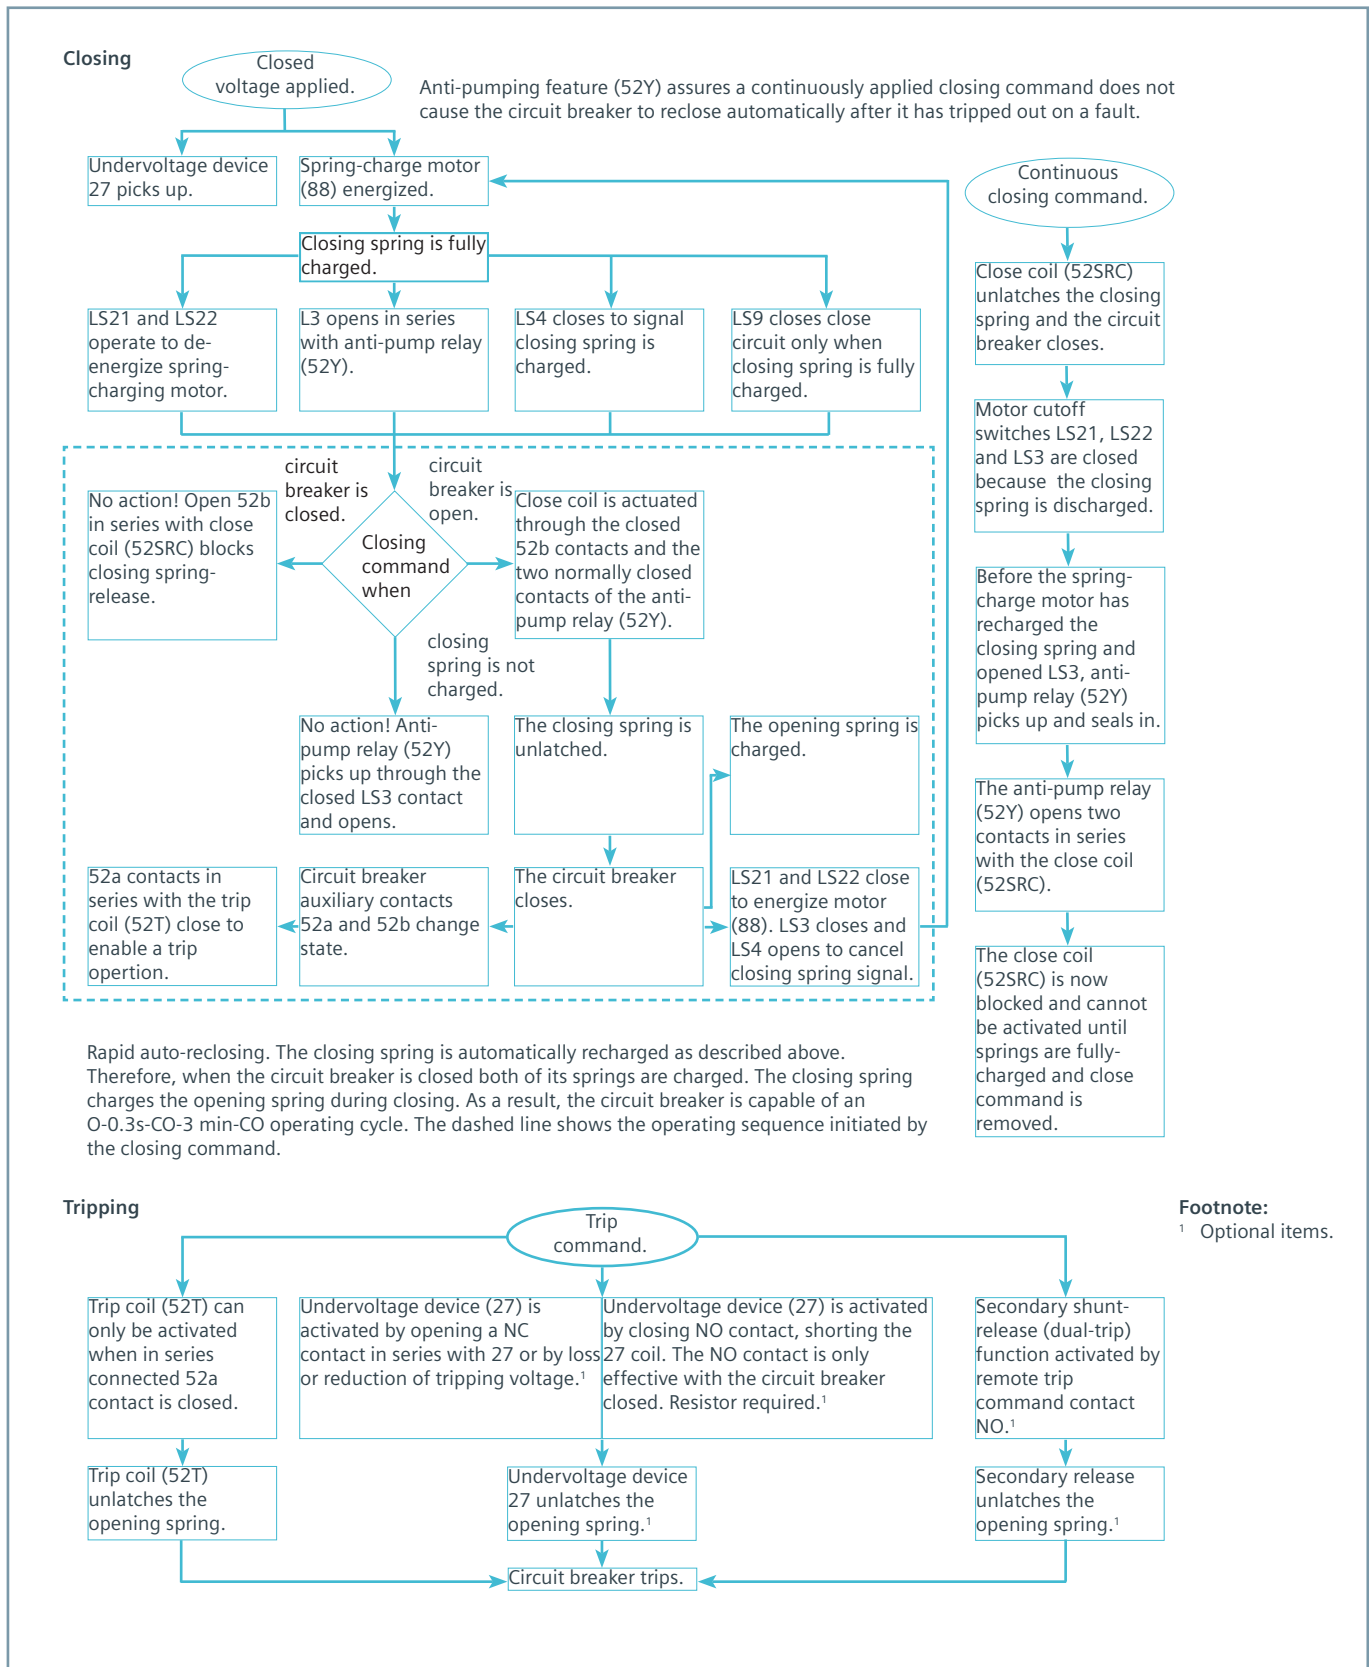

Figure 17: Operator sequence operation diagram
The essential parts of the operating mechanism are shown in Figure 15: Stored-energy operating mechanism on page 19. The control and sequence of operation of the mechanism is described in Figure 17: Operator sequence operation diagram on page 23.
On the undervoltage release 3AX1103, the latch (25.0) is held by the locking pin (21.0) as long as the armature (9.0) is attracted (energized) (refer to Figure 17: Operator sequence operation diagram on page 24). If the circuit of the magnet coil (7.0) is interrupted, the armature (9.0) drops off, thus causing the latch (25) to lose its support and release the striker pin (23).